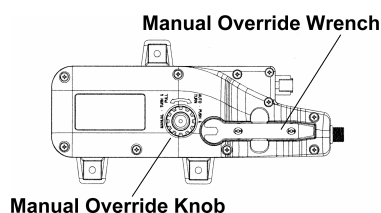

Figure 5
3. Remove the Manual Override Wrench (Fig. 5) from the actuator. Use a screwdriver to pry it loose if necessary.